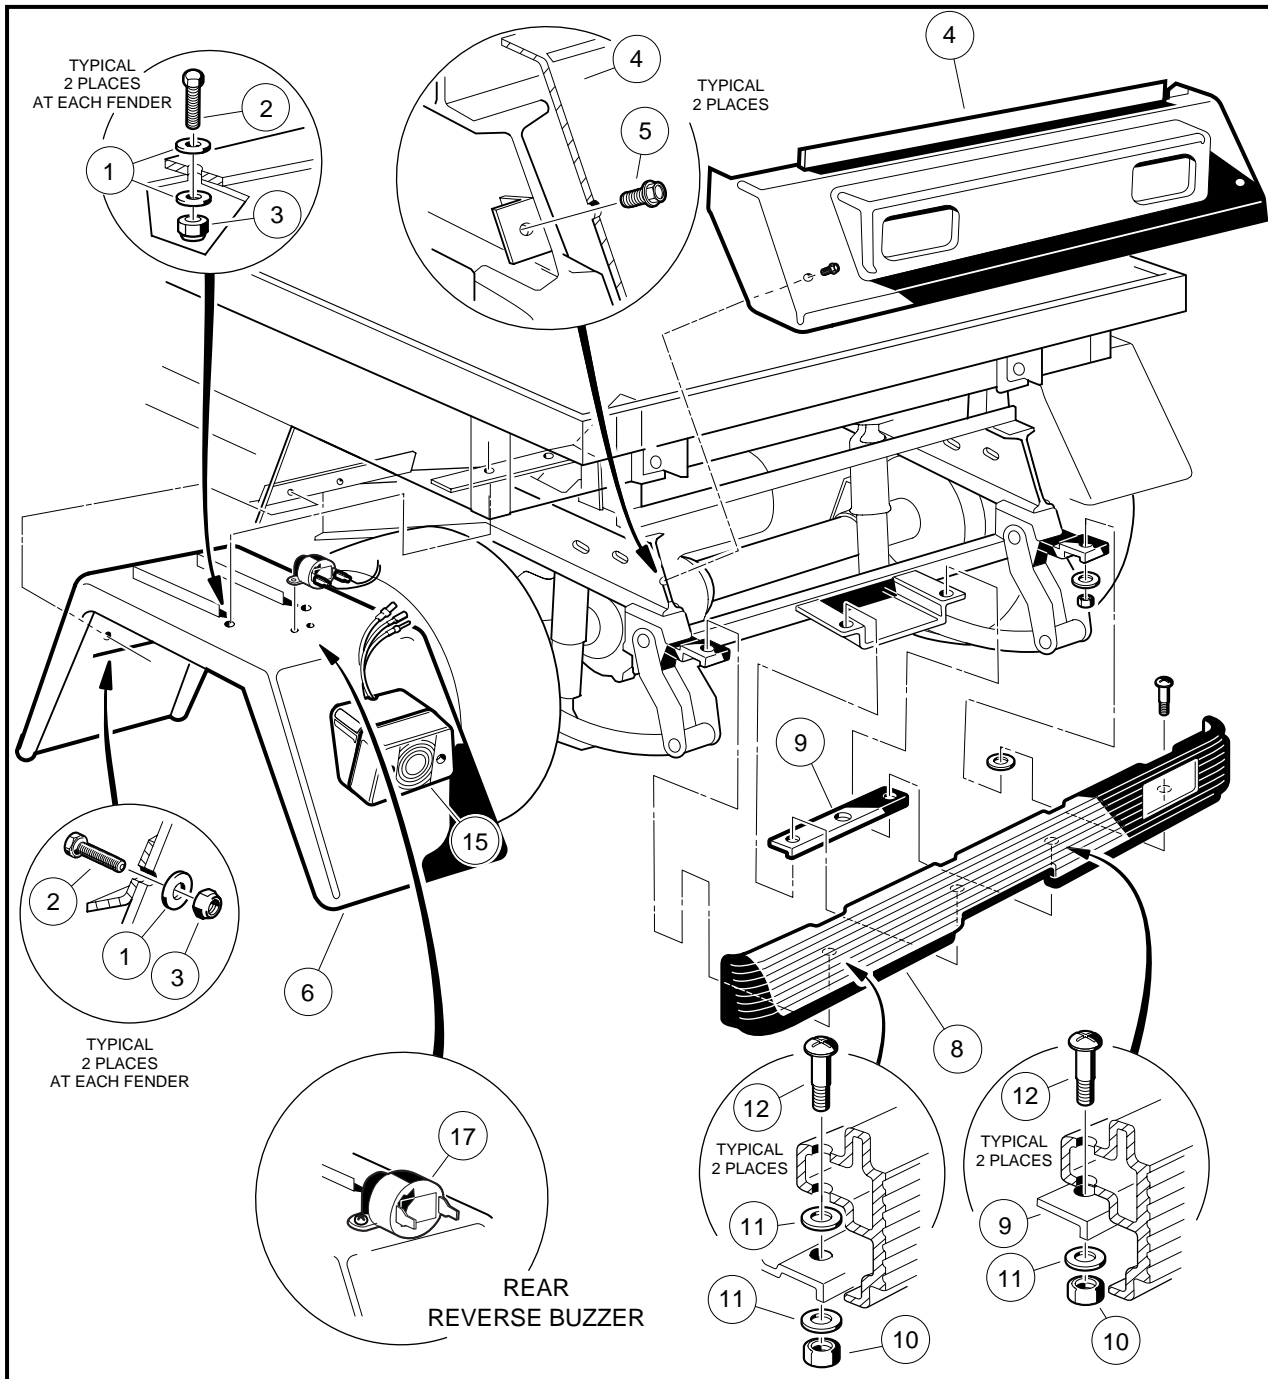

Figure 4-13 Rear Fender, Tailskirt and Bumper – TransPorter 4 and 6
1. Disconnect the three wires that supply power to the taillights (15) (**Figure 4-13, Page 4-16**).
2. Remove the two nylon locknuts (3), flat washers (1) and bolts (2) from front of fender (6) (**Figure 4-13, Page 4-16**).
3. Remove the two locknuts (3), flat washers (1) and bolts (2) from top of fender (6) (**Figure 4-13, Page 4-16**).
4. Disconnect the two wires from the reverse buzzer (17) (**Figure 4-13, Page 4-16**).
5. Remove the fender (6) from vehicle (**Figure 4-13, Page 4-16**).
1. Connect the two wires to the reverse buzzer (17) and install rear fender (6) **(Figure 4-13, Page 4-16)**.
2. Install the two nylon locknuts (3), flat washers (1) and bolts (2) onto top of fender (6) **(Figure 4-13, Page 4-16)**.
3. Install the two nylon locknuts (3), flat washers (1) and bolts (2) onto front of fender (6) **(Figure 4-13, Page 4-16)**. Tighten hardware to 35 in-lb (4.0 N·m).
1. Remove the two thread forming screws (5) from tailskirt (4) and lift the tailskirt from the frame **(Figure 4-13, Page 4-16)**.
1. Insert upper edge of tailskirt (4) under and in front of the back edge of the rear body **(Figure 4-13, Page 4-16)**.
2. Align holes in tailskirt (4) with holes in vehicle frame. Position tailskirt flush against vehicle frame **(Figure 4-13, Page 4-16)**.
3. Install two thread rolling screws (5) in tailskirt and tighten to 55 in-lb (6.2 N·m) **(Figure 4-13, Page 4-16)**.
1. Remove four locknuts (10), six flat washers (11), four phillips bolts (12), and mounting plate (9) from rear bumper (8) (**Figure 4-13, Page 4-16**).
1. Install the rear bumper in the reverse order of removal. Tighten nuts to 65 in-lb (7.3 N·m) (**Figure 4-13, Page 4-16**).